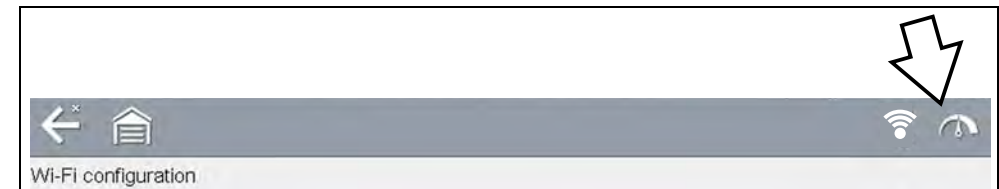

Figure 13-3 Wi-Fi Test Icon
3. From the Wi-Fi configuration screen, select the **Wi-Fi Test** icon to open the network connection test screen (Figure 13-3).